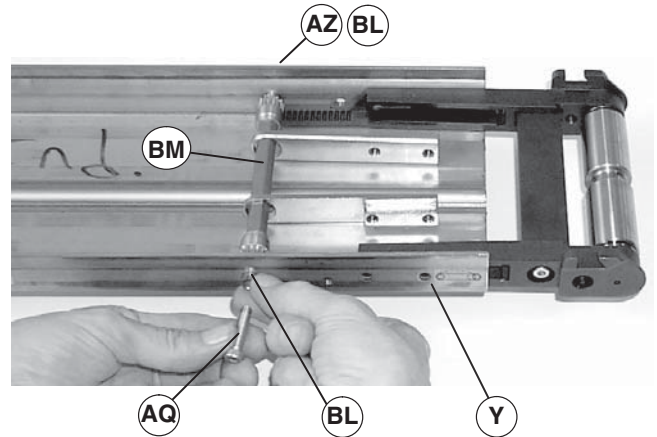

Figure 35
3. Remove two screws (Figure 35, item AQ and AZ) and sleeves (BL) from conveyor (Y) and hex pinion (BM).